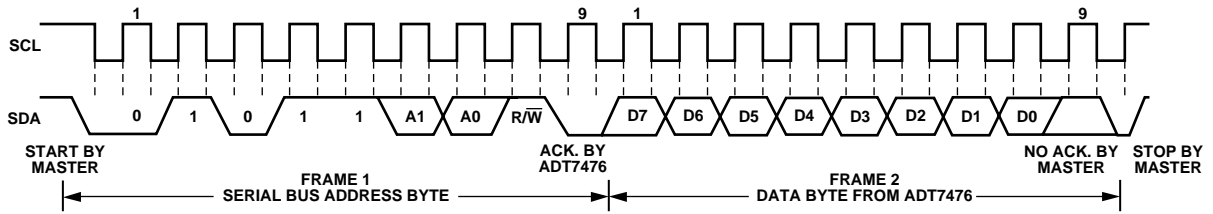

Figure 20. Reading Data from a Previously Selected Register
A read operation is then performed consisting of the serial bus address, R/\overline{W} bit set to 1, followed by the data byte read from the data register (see Figure 20.)
- If the address pointer register is known to be already at the desired address, data can be read from the corresponding data register without first writing to the address pointer register (see Figure 20).